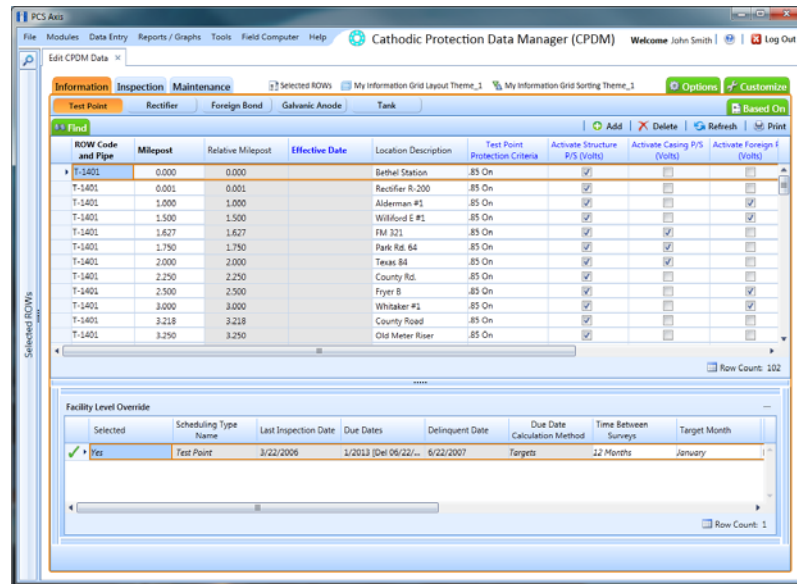

Figure 6-5. Information Grid
- 3 Open the *Edit <module> Data* window. For example, click **Data Entry > Edit CPDM Data** to open the *Edit CPDM Data* window (Figure 6-5, page 171).